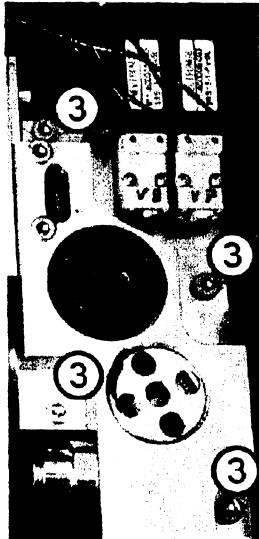

Fig. 9 Connector block fixing screws
7. Remove the connector block fixing screws Fig. 9/3.